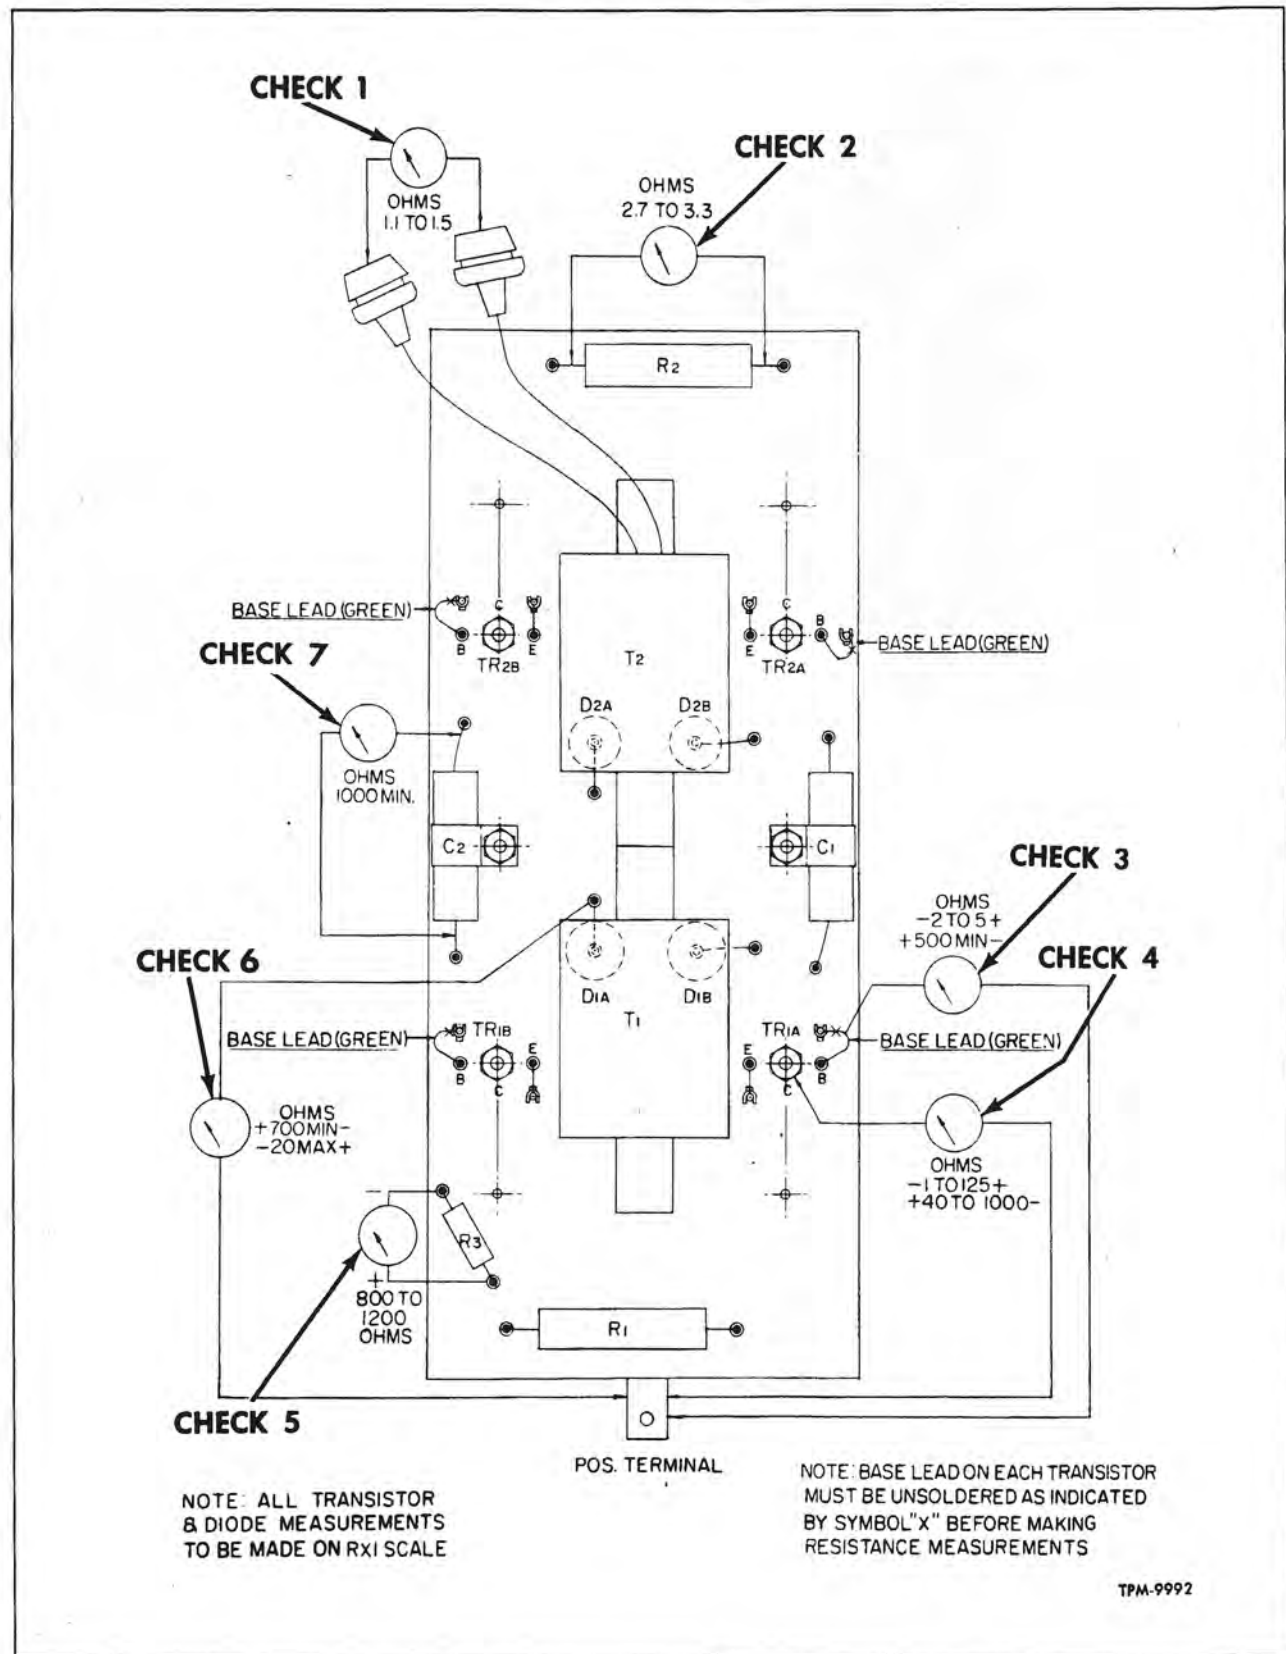
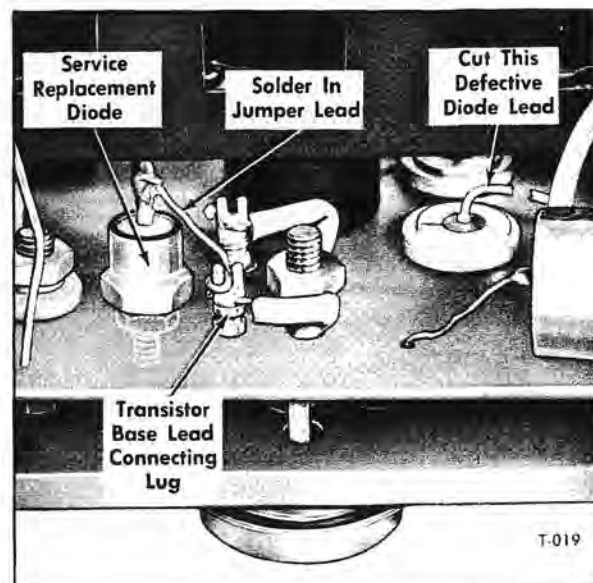

Figure 14—Power Supply Unit Ohmmeter Checks
Figure 15—Service Replacement Diode Installed
(Refer to Figure 14)
CHECK 3: Before making ohmmeter checks as shown in "Check 3" of Figure 14, unsolder the base lead having green insulating loom from terminal lug. Figure 15 shows the base lead connection. Make two checks at each unit, reversing the polarity of the leads for the second check. Make sure all transistors are checked. Ohmmeter readings for each polarity is shown in Figure 14 at "Check 3." NOTE: Do not resolder transistor base lead until all Resistors, Transistors, Diodes, and Capacitor checks have been made.
CHECK 4: Connect ohmmeter to each transistor as shown in "Check 4" of figure 14. Make two checks at each unit, reversing the polarity of the leads for the second check. Ohmmeter readings for each polarity are shown in figure 14 below "Check 4."
Connect ohmmeter to all diodes as shown in "Check 6" of figure 14. Make two checks at each unit, reversing the polarity of the leads for the second check. Ohmmeter readings for each polarity are shown in "Check 6" of figure 14. If readings do not agree with those in figure 14, diode is defective. Instructions for installing replacement diode are explained later under "Repair."
Connect ohmmeter to each capacitor as shown in "Check 7" of figure 14. A minimum reading of 1000 ohms should be obtained. If reading is below 1000 ohms, capacitor is shorted and should be replaced.
NOTE: Figure 15 shows a service replacement diode installed. A nut and lock washer secures this diode to printed circuit board and holes are provided in board for this purpose.
3. IMPORTANT: Cut or break the lead at top of defective diode at point shown in upper right portion of figure 15.